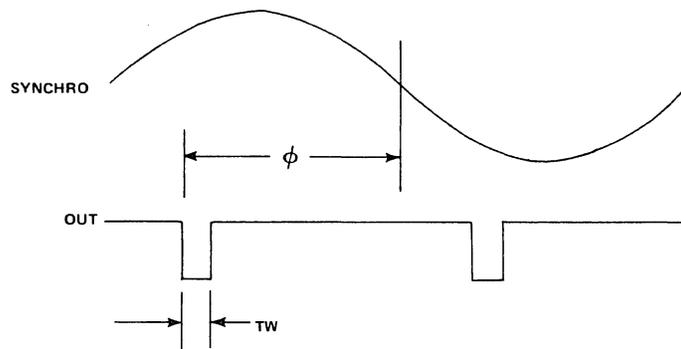

FIGURE 2 OUTPUT PHASE ANGLE  $\phi$
**FREQUENCY CHARACTERISTICS (See Fig. 2 & 3)**